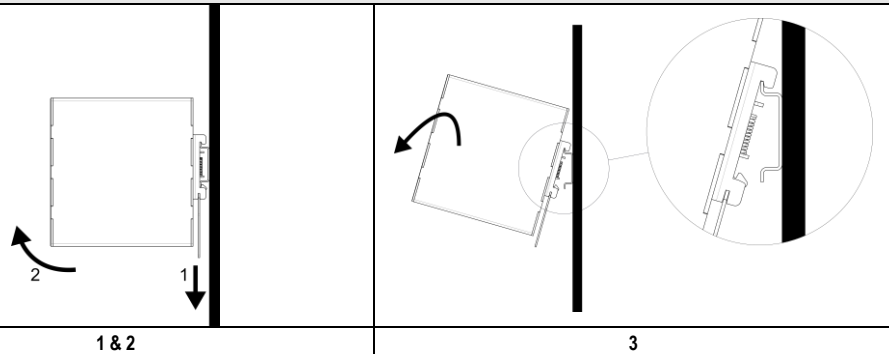

Fig.5
- 3) Connections:** the device is equipped with pluggable screw terminals. To avoid sparks, do not connect or disconnect the connectors before having previously turned-off input power and waited for internal capacitors discharge (minimum 1 minute). In order to comply with UL certification, use appropriate copper cables of indicated cross section, designed for an operating temperatures $\geq 90^{\circ}\text{C}$. Strip the connecting ends of the wires according to the indication and ensure that all strands of a stranded wire enter the terminal connection (see Fig.5).